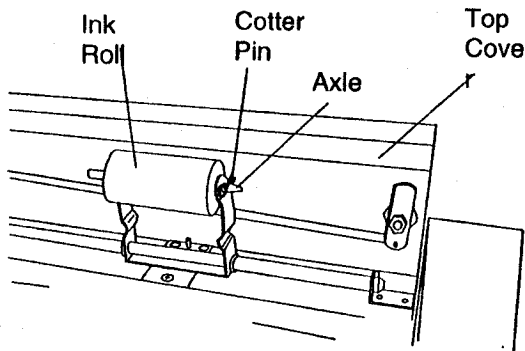

Figure 10
The ink roll can be moved by opening the top cover and simply sliding the ink roll assembly to the right or left as required (See Figure 10). The ink roll must be positioned so that it inks the entire signature plate.
- c. Pull the cotter pin out of the axle (see Figure 10).
- e. Hold the new ink roll between the sides of the ink roll carriage and insert the axle with the pointed end as shown in Figure 10.